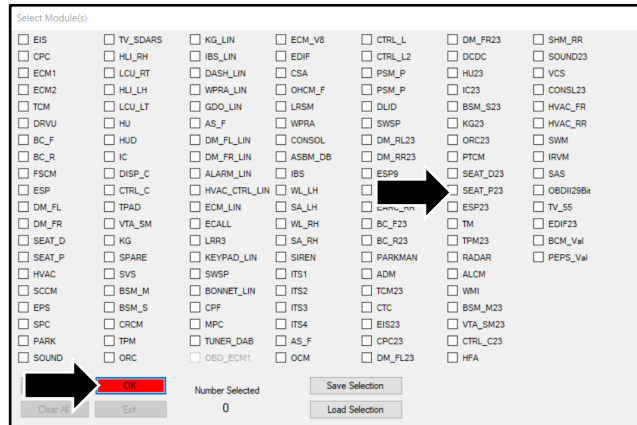

Figure 5
- Select the “SEAT\_P23” module then click the “OK” button (refer to Figure 5).